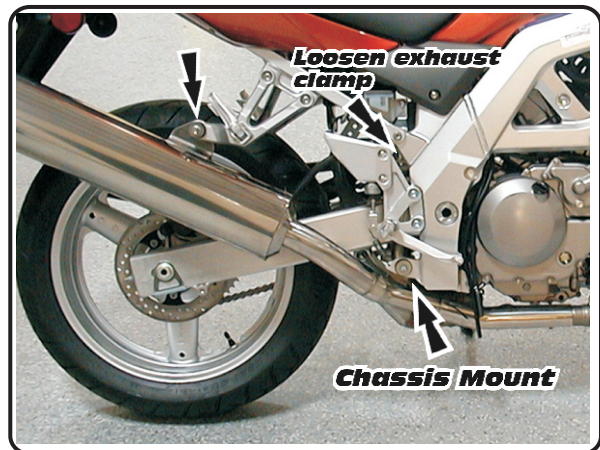

Fig. 2
- 2 Remove stock muffler and stock rear header. (Loosen exhaust clamp on rear stock header tube. Unbolt chassis and muffler mounts. See Fig.2 &3)